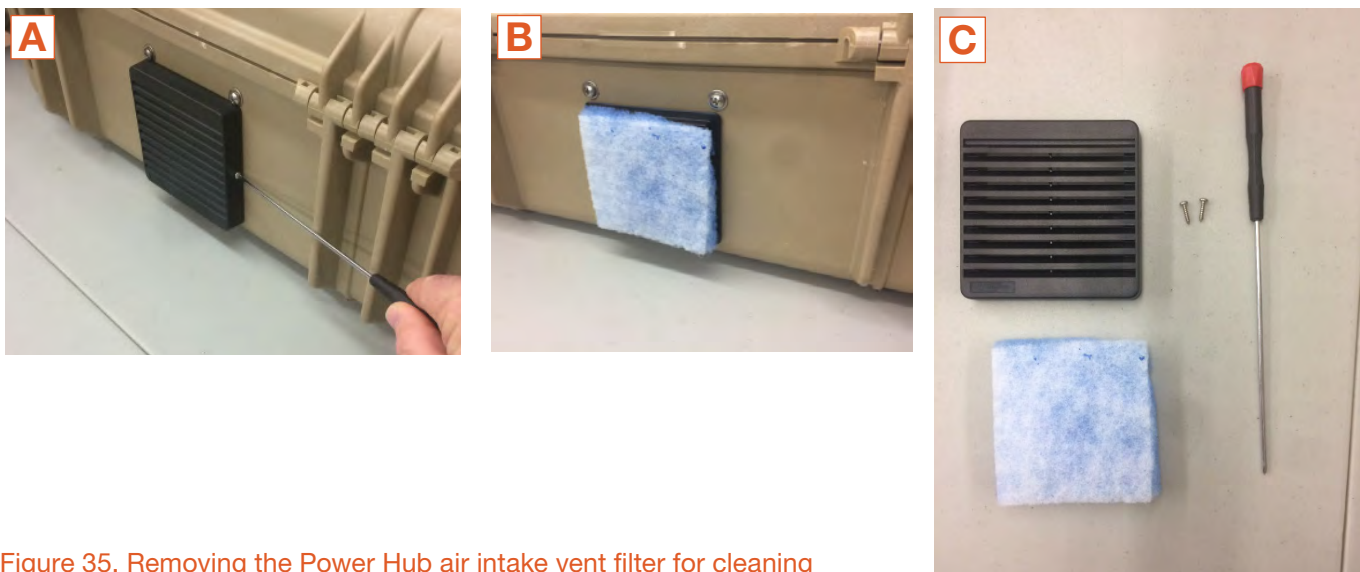

Figure 35. Removing the Power Hub air intake vent filter for cleaning
The air intake vent and filter on the back of the Power Hub. The louvered vent cover is secured by two (2) cross tip screws, one on each side. A fine cross tip screwdriver or similar will be required to remove the screws. After exposing the filter, lift it from the vent and wash thoroughly with water, dry thoroughly and reinstall the filter and louvered vent cover. Ensure that the leading edge of the louvers are facing downward. The parts and tool required are shown in (Figure 35).